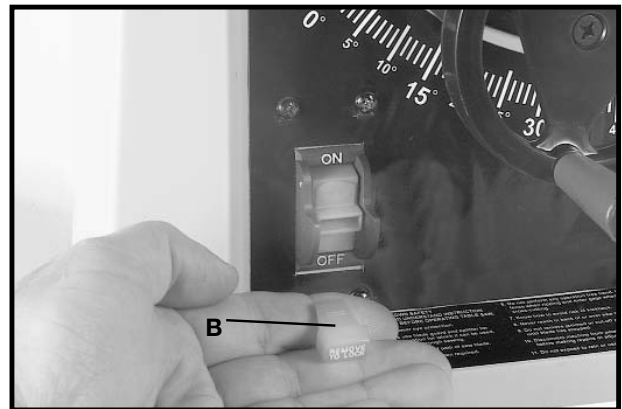

Fig. 30
IMPORTANT: When the tool is not in use, the switch should be locked in the “OFF” position to prevent unauthorized use. To lock the tool, grasp the switch toggle (B) and pull it out of the switch (Fig. 30). With the switch toggle (B) removed, the switch will not operate. However, should the switch toggle be removed while the saw is running, the machine can be turned “OFF,” but cannot be restarted without re-inserting the switch toggle (B).